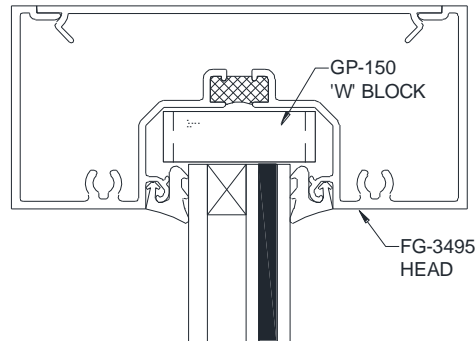

Figure 35: ArmorDefend™ Transom Header Side Block Installation
- 11.2.2.4 Install **GP-150** side block in transom header. See Figure 35.